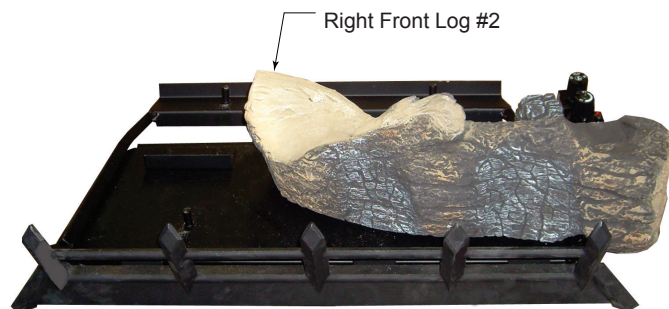

Figure 6.4 - Log #2 Placement
2. Place front right log (#2) on right pin located on burner and right grate bar. See Figure 6.4. Slide Log #1 forward so that it is tight against log #2.